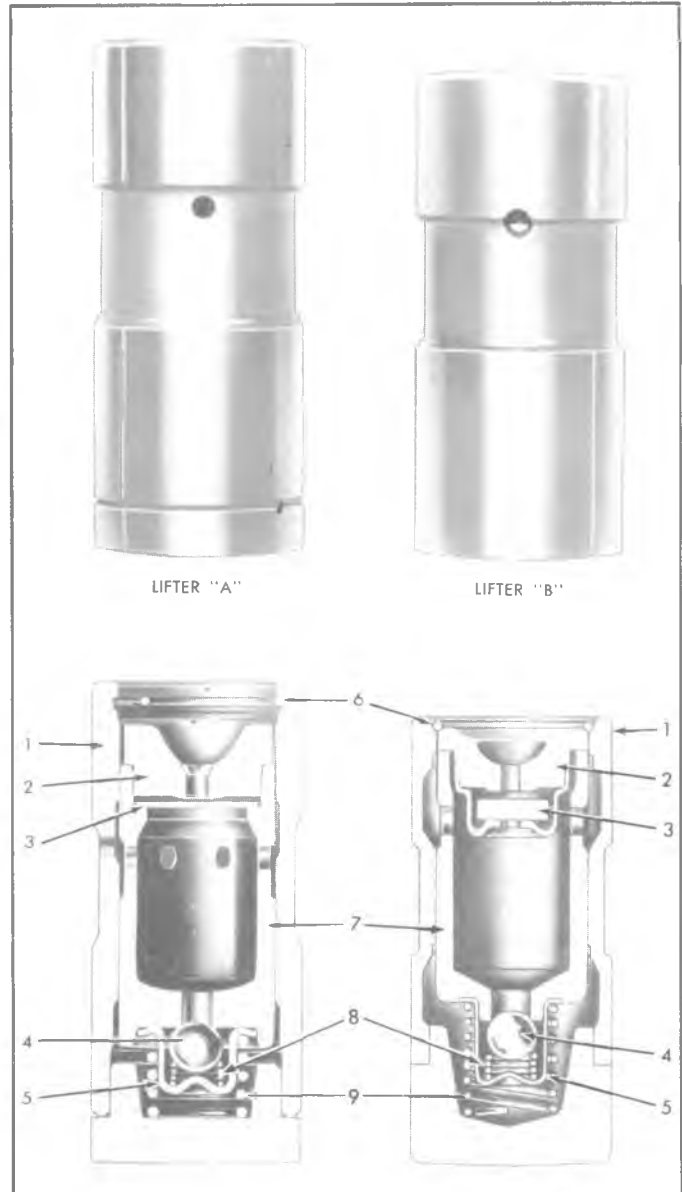

Fig. 30—Hydraulic Valve Lifters
Shells, Diaphragms, Clamp Bands (Fig. 30)
NOTE: Inertia valve and retainer (lifter "B") (fig. 30) should not be removed from the push rod seat. To check the valve, shake the push rod seat and inertia valve assembly and the valve should move.
NOTE: On lifter "B" (fig. 30) the drift pin must not extend inside the plunger.
7. Install the metering valve and push rod seat (lifter "A") or the push rod seat and inertia valve assembly (lifter "B") (fig. 30).